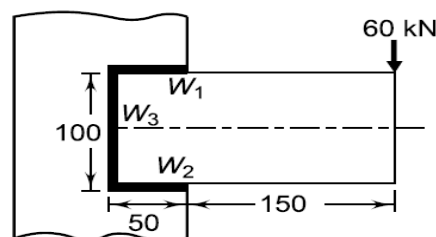

Figure 1 – Q 4 (a)
- (b) Explain the terms: coefficient of speed fluctuation and coefficient of steadiness. (08)
4. (a) A welded joint as shown in Fig. 1, is subjected to an eccentric load of 60 KN in the plane of the welds. Determine the size of the welds, if the permissible shear stress for the weld is 100 N/mm^2 . Assume static conditions. (10)